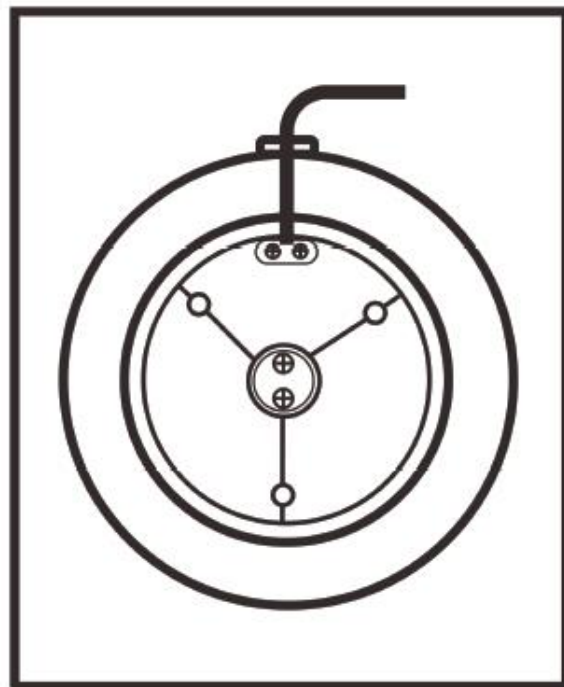

Abb. 2
- Place the part of the stand (9) that has no connections on the smooth side of the motor (2). Make sure that the power cord (8) is not pinched (see Fig. 2).